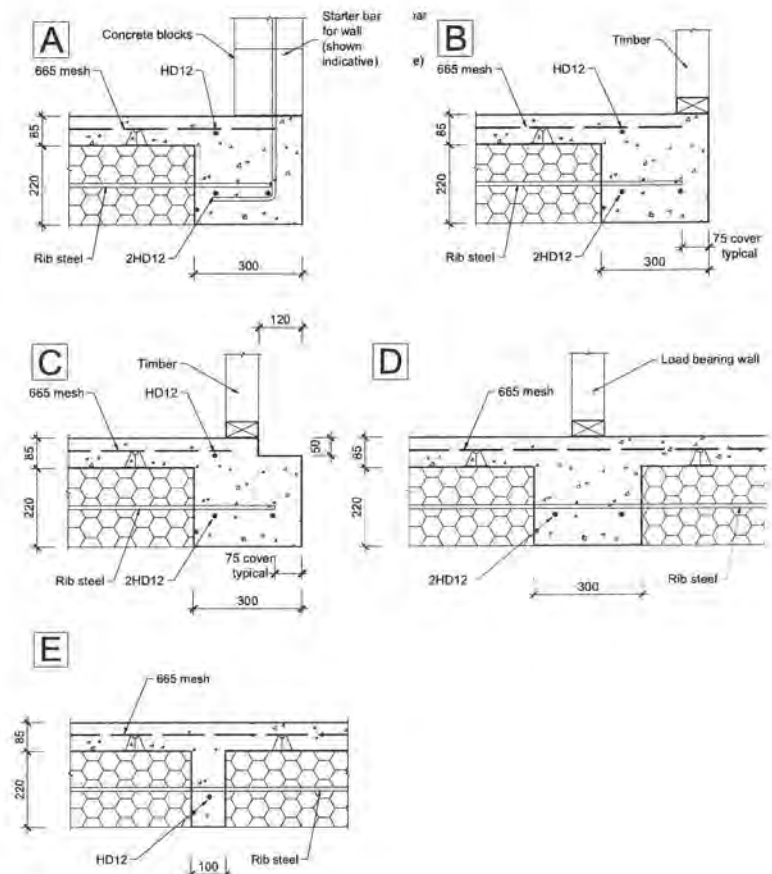

Figure 5 Standard RibRaft Construction Details
Edge beams around the perimeter of the floor slab shall be 300mm to provide bearing capacity for external load bearing walls, and contain 2-HD12 bars (Grade 500E) as bottom steel and 1-HD12 bar (Grade 500E) in the top. This top bar shall be tied to the underside of the reinforcement mesh. Refer Figure 5, below for construction details. The edge beam shall be rebated for brick veneers where necessary as shown in Figure 5(C).
For all load bearing walls and heavy internal walls, the pods shall be cut to create a 300mm wide rib directly under the load bearing wall, with 2-HD12 (Grade 500E) steel bars as bottom steel. Refer Figure 5(D) for construction details under load bearing walls.